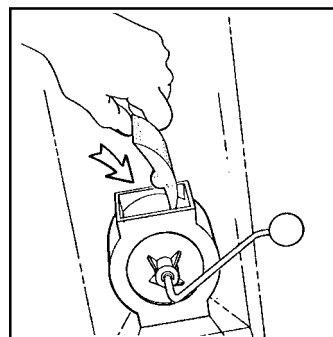

Figure 2. View placing foam inserts into drum.
5. Pull handle to DOWN position and carefully, place into drum opening, one of the foam inserts (as shown in Figure 2.). Each insert is marked with the quantity, in ounces, that it will dispense (the smaller the insert, the more coffee dispensed from the unit).